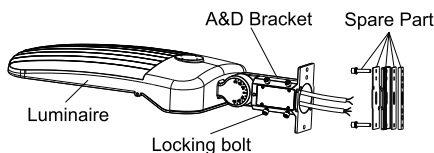

Figure 17
Step 1: Remove the spare parts from A&D bracket. (Figure 17)